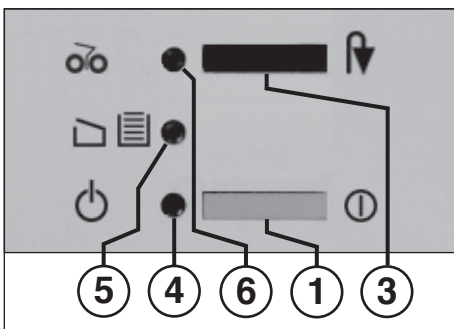

fig. 1
- 1 = Pushbutton switch (fig. 1)**
- 3 = Pushbutton switch (fig. 1)**
- 4 = Pilot lamp (fig. 1)**
- 5 = Pilot lamp (fig. 1)**
- 6 = Pilot lamp (fig. 1)**
- b) while the cutting mechanism is running, the pushbutton switch (3) is pressed. The cutting mechanism is switched off and stops.
- Turn machine on with pushbutton switch (1) (fig. 1). Pilot lamp lights up (4) (fig. 1).
Once the collecting bag is full, the machine switches off. The pilot lamp „Container full“ / „Door open“ (5) (fig. 1) **flashes**. To show that the cutting mechanism has stopped, the pilot lamp „Paper jam“ / „Stop“ (6) lights up.
- Move back the sliding frame with the collecting bag and close door. The pilot lamp (5) (fig. 1) goes off.
- Briefly press the pushbutton switch „Backward operation“ / „Stop“ (3). The cutting mechanism shreds what remains in the feed shaft and then switches off. The pilot lamp (6) goes out. You can now continue shredding.
- The pilot lamp (6) (fig. 1) lights up.
- **Continuously** press pushbutton switch „Backward operation“ / „Stop“ (3) while simultaneously removing from the machine any documents that were being fed in.
- After removal, the cutting mechanism automatically runs forwards, shreds any remnants remaining in the inlet slot and then switches off. The pilot lamp (6) (fig. 1) goes out.
The motor shuts down automatically, should it become overloaded. Turn the machine off with the pushbutton switch (1) (fig. 1).